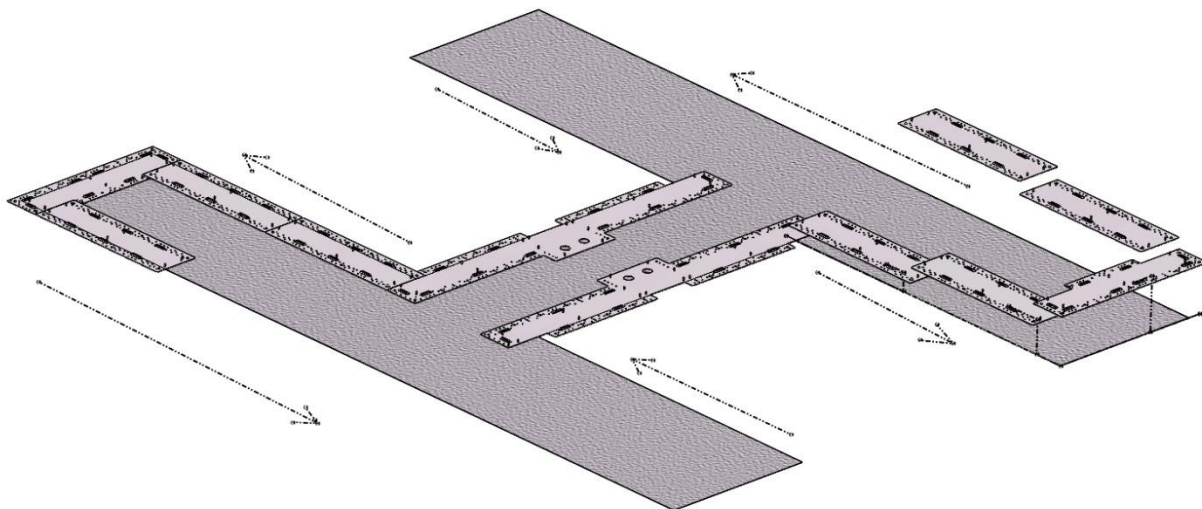

Figure 5 - Installation of the H Mounting Plates
1. Lay out the parts on the H. Start with one middle part (6) and follow the shape of the painted H to the second middle part. Repeat this on both sides of the H. (Figure 5)